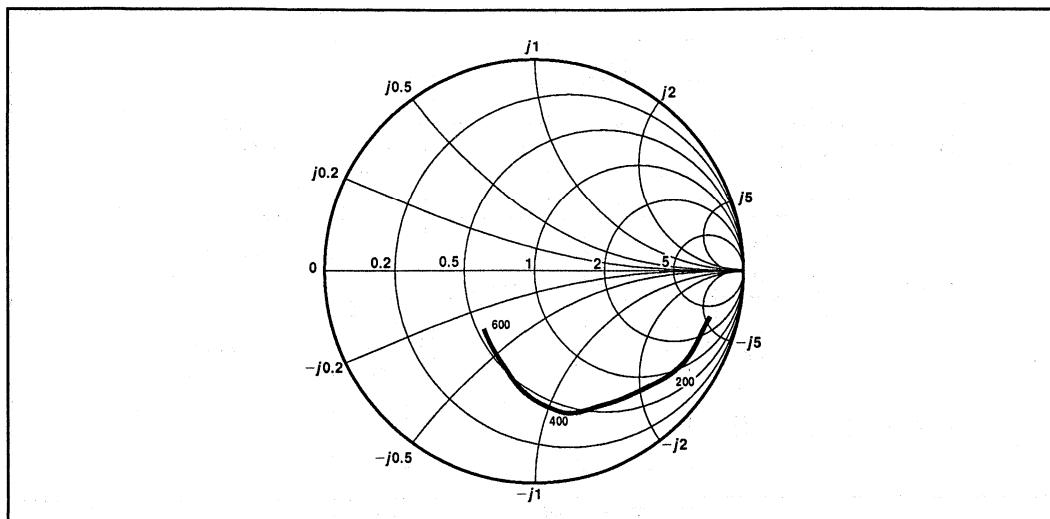

Fig. 4 Typical input impedance. Test conditions: supply voltage = -5.2V , ambient temperature = 25°C , frequencies in MHz, Impedances normalised to 50Ω
8. Input impedance varies as a function of frequency; see Fig. 4